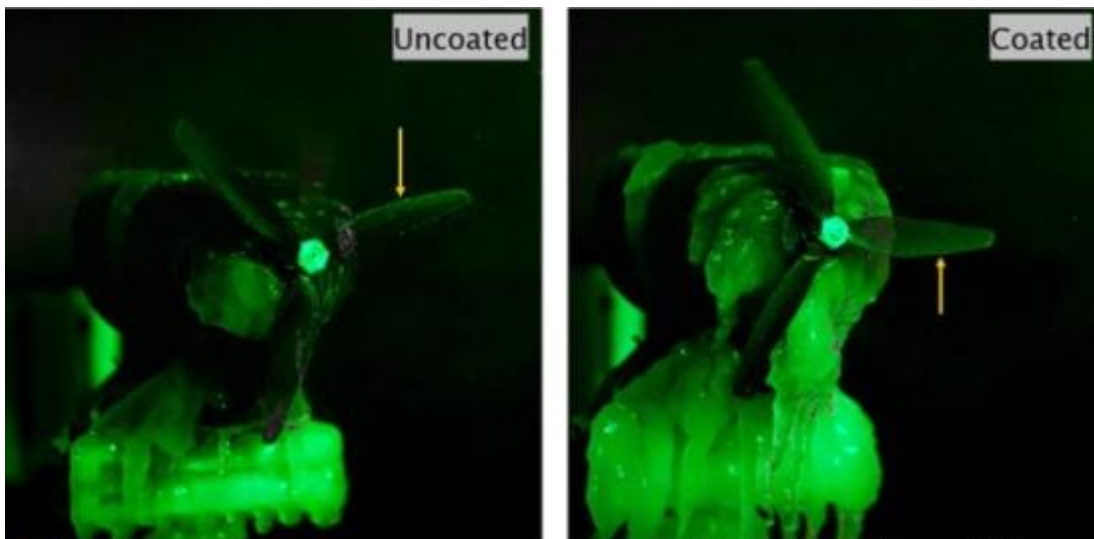

Figure 2: Ice formation visualisation on non-coated and coated propeller
- Clear benefit of anti-icing coating on propellers was observed (Figure 2): the coated propeller produced thrust almost four times longer in icing conditions compared to the non-coated one (Figure 3).